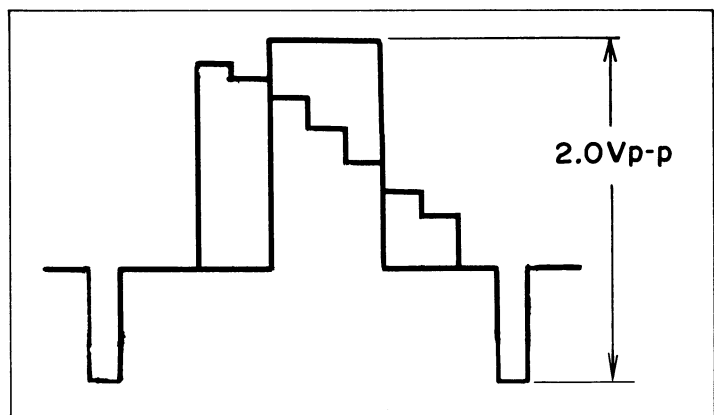

Fig. 5-53. B/W E-E waveform
1. With arrangement as in 5-8-2, set the mode change-over switch to the B/W position and adjust R59 (B/W E-E Level) so that the output is 2.0 volts p-p, as shown in Fig. 5-53.